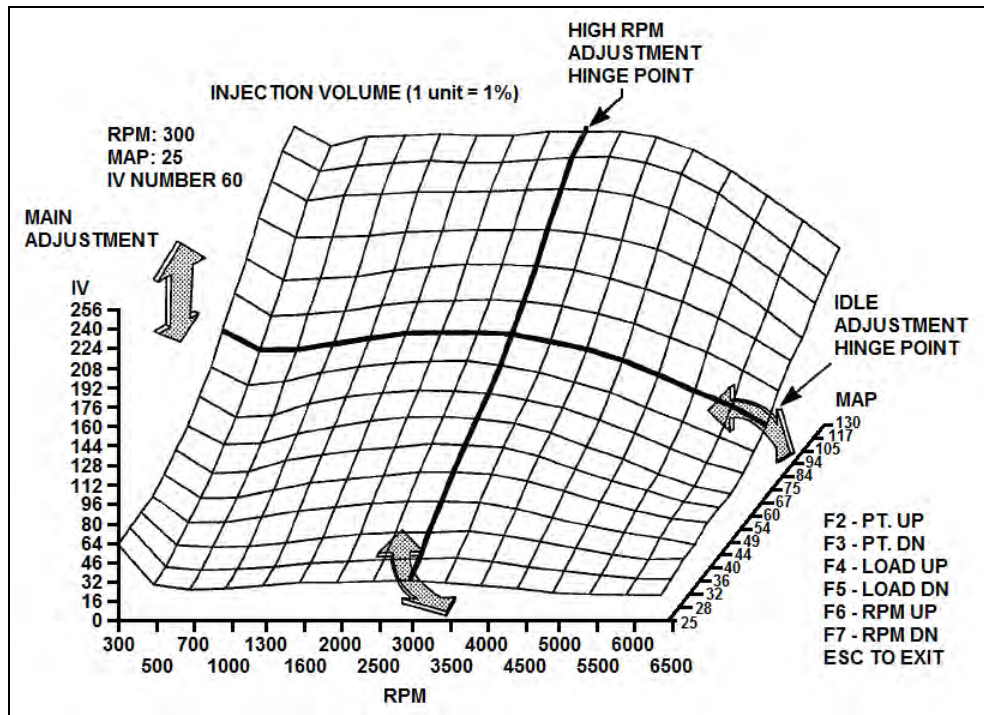

Figure 18: Fuel Map Areas of Adjustment
In addition to the information provided to the ECU by the various sensors, the user is also able to adjust the fuel delivery through the use of the five adjustment knobs on the front of the ECU. Each of the adjustment knobs is factory set in a null ("0") position. The user is able to adjust fuel delivery for **(1) Idle, (2) Main, (3) High RPM, (4) Accelerator Pump, and (5) Choke** settings. A detailed description of each adjustment is given below. Refer to Figure 18 during the discussion of each of the adjustments.
The idle adjustment knob allows the user to adjust the fuel delivery in the idle region of the fuel map 30% above or below the values that are set at the factory. This is accomplished by moving the lower part of the fuel map either up or down along a hinged horizontal line as indicated in Figure 18. Adjustments to the idle region of the fuel map are made **AFTER** the MAIN adjustment knob has been properly adjusted. Turning the knob clockwise increases the fuel delivery, while a counter-clockwise rotation decreases the amount of fuel delivered to the engine during idle.
The HIGH RPM adjustment knob allows the user to adjust the fuel delivery for engine speeds over 3000 rpm 50% above or below the values that are set at the factory. This is accomplished by moving the fuel map either up or down along a diagonal hinged line as indicated in Figure 18. Turning the adjustment knob clockwise increases the fuel delivery, while a counter-clockwise rotation decreases the amount of fuel delivered to the engine at high engine speeds.